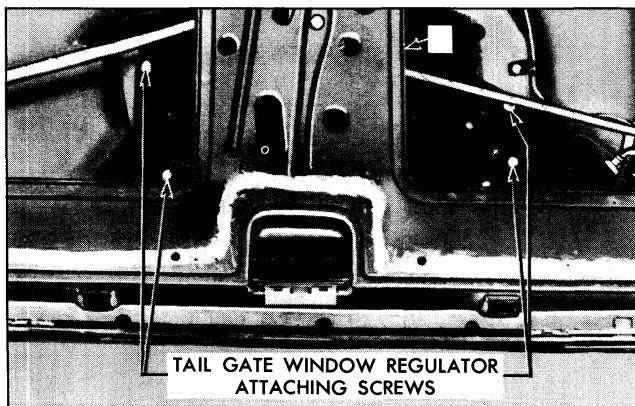

Fig. 5-11 Window Regulator
*NOTE: To open the tail gate on styles with electric windows when window is removed, depress tail gate lock remote control locking lever through access hole at location A (Fig. 5-11) and at the same time operate the tail gate remote control inside handle.*
2. To correct a condition where the glass is "cocked" in the glass run channels, loosen window regulator attaching screws (Fig. 5-11), rotate regulator clockwise or counterclockwise, as required, to eliminate "cocked" condition.
2. Detach tail gate lock remote control right connecting rod from remote control at A (Fig. 5-11).
4. Remove regulator attaching screws through access holes at locations shown in Fig. 5-11. Remove regulator through large access hole.